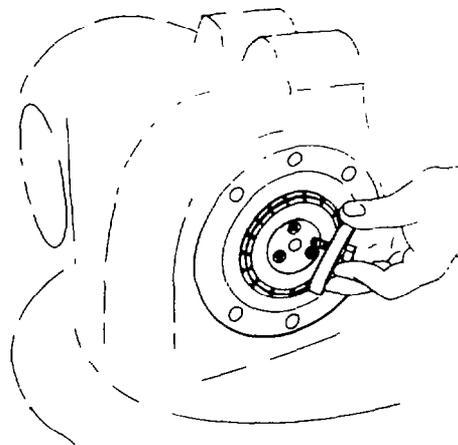

Fig. 327 — Installing Clamp Plate and Retaining Bolts
- q. Install the clamp plate and retaining bolts as shown in fig. 327. Torque the retaining bolts to 75 - 100 Nm (55 - 75 lb.ft).